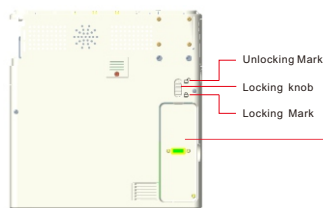
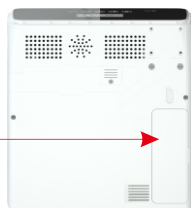

Figure:7
Figure:8
Insert the battery pack into the designated position of the machine. After hearing the "click", and the locking knob likes that (Please refer to Figure 7), which means that it is correct for assembly of the battery pack. The machine can be worked until the battery power less than 20%). Please refer to Figure 7 and figure 8:
- Please insert the **Battery Pack** in the direction of arrow C, when hearing the "click", and the locking knob likes that (Please refer to Figure 7), which means that it is correct to insert the **Battery Pack**.